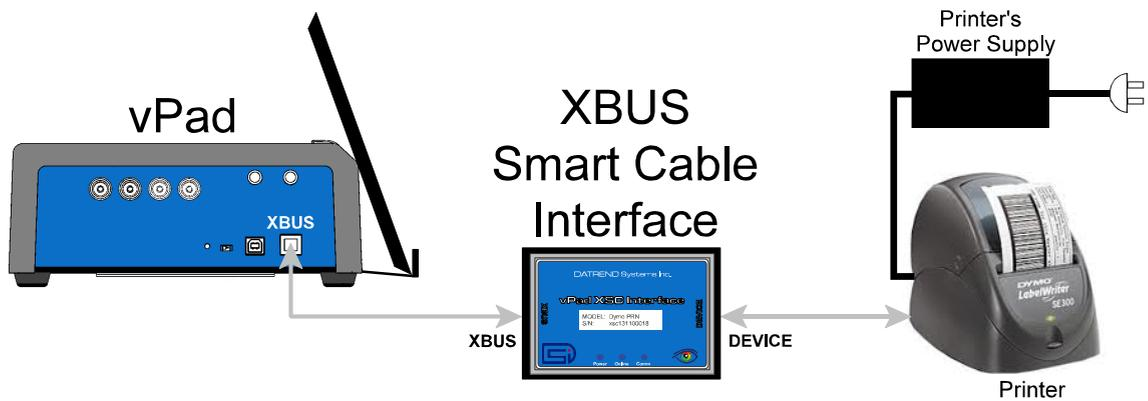

Figure 3 - Schematic showing setup of label printer - wired (serial) interface.
Figure 3 shows the general setup for a wired connection to a supported label printer through a XSC Smart Cable interface. The figure is a schematic representation and is not drawn to scale. Setup instructions are as follows:
- f. Optionally, a wireless XSC may be switched to wired operation. To do so, disconnect the XSC from the vPad and set the "BTENA" switch of the interface to the "OFF" position. This will disable the Bluetooth connectivity of the XSC. A wired connection to the printer may then be set up as shown in *Figure 3*.